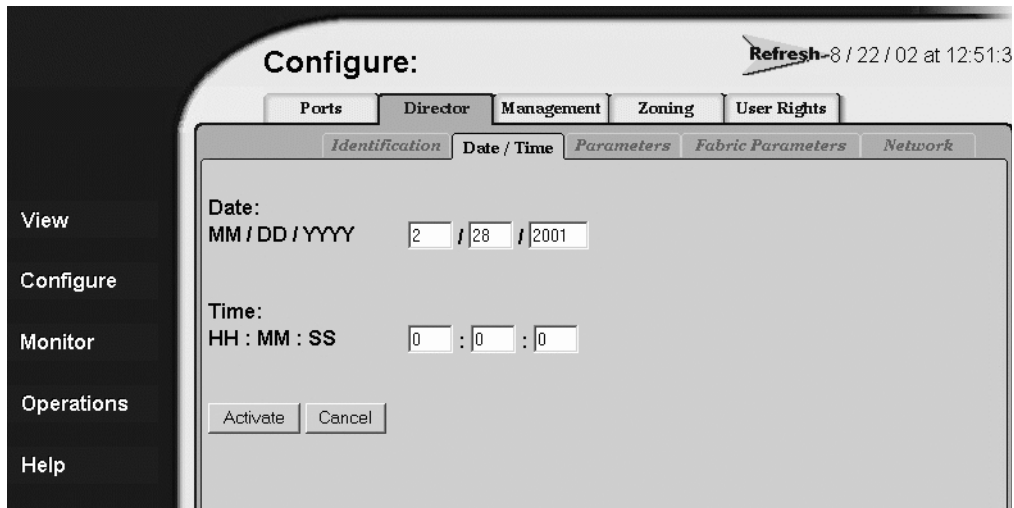

Figure 3–5: Date/Time Properties page
1. At the **Configure** page, click the **Director** tab, then choose the **Date/Time** tab. The **Date/Time Properties** page displays, as shown in Figure 3–5.